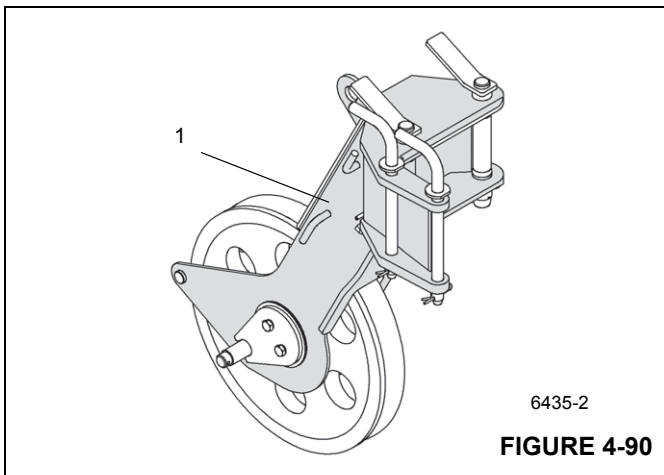

FIGURE 4-90
The serial number (1) is on a plate, in the front on the auxiliary single-sheave boom nose (Figure 4-90).